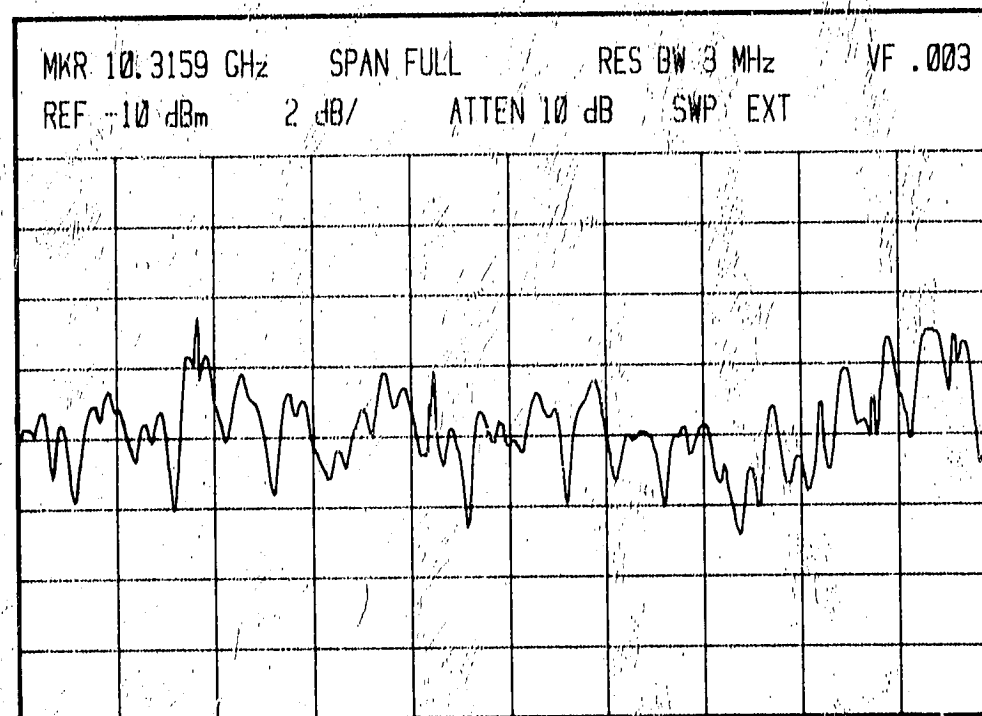

Figure 5-58. CRT Plot of Typical Frequency Response, 10.5 to 22 GHz
27. Adjust A20R105 V6 for minimum amplitude variations on CRT trace. Repeat step 26 (see Figure 5-58).